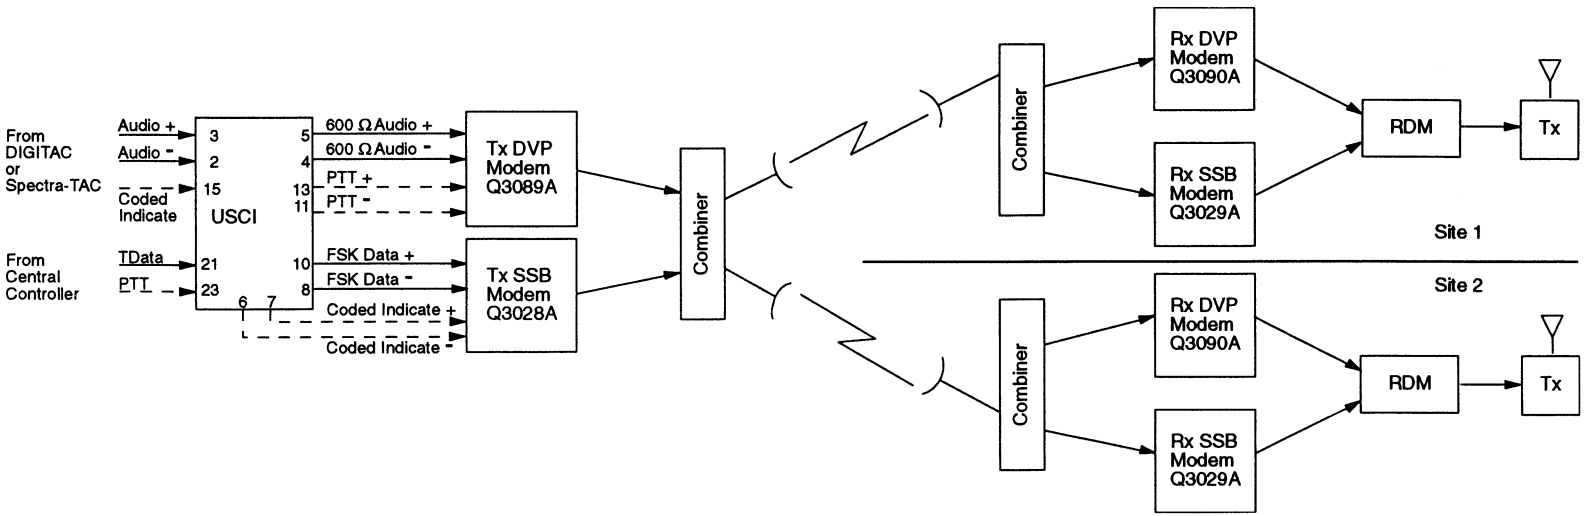

Figure 3. Dual Path Simulcast, Two-Level Encryption
- Step 9. Connect the Coded Indicate Out (+) and (-) to the SDA via the punchblock. Refer to Figures 3 through 6.
- Step 11. Connect the PTT Out (+) to the switchable M-lead input on the SDA (pin 43) via the punchblock. Refer to Figures 3 through 8.
- Step 7. Connect the Coded Indicate Out (+) and (-) to the SDA. Refer to Figures 3 through 6.